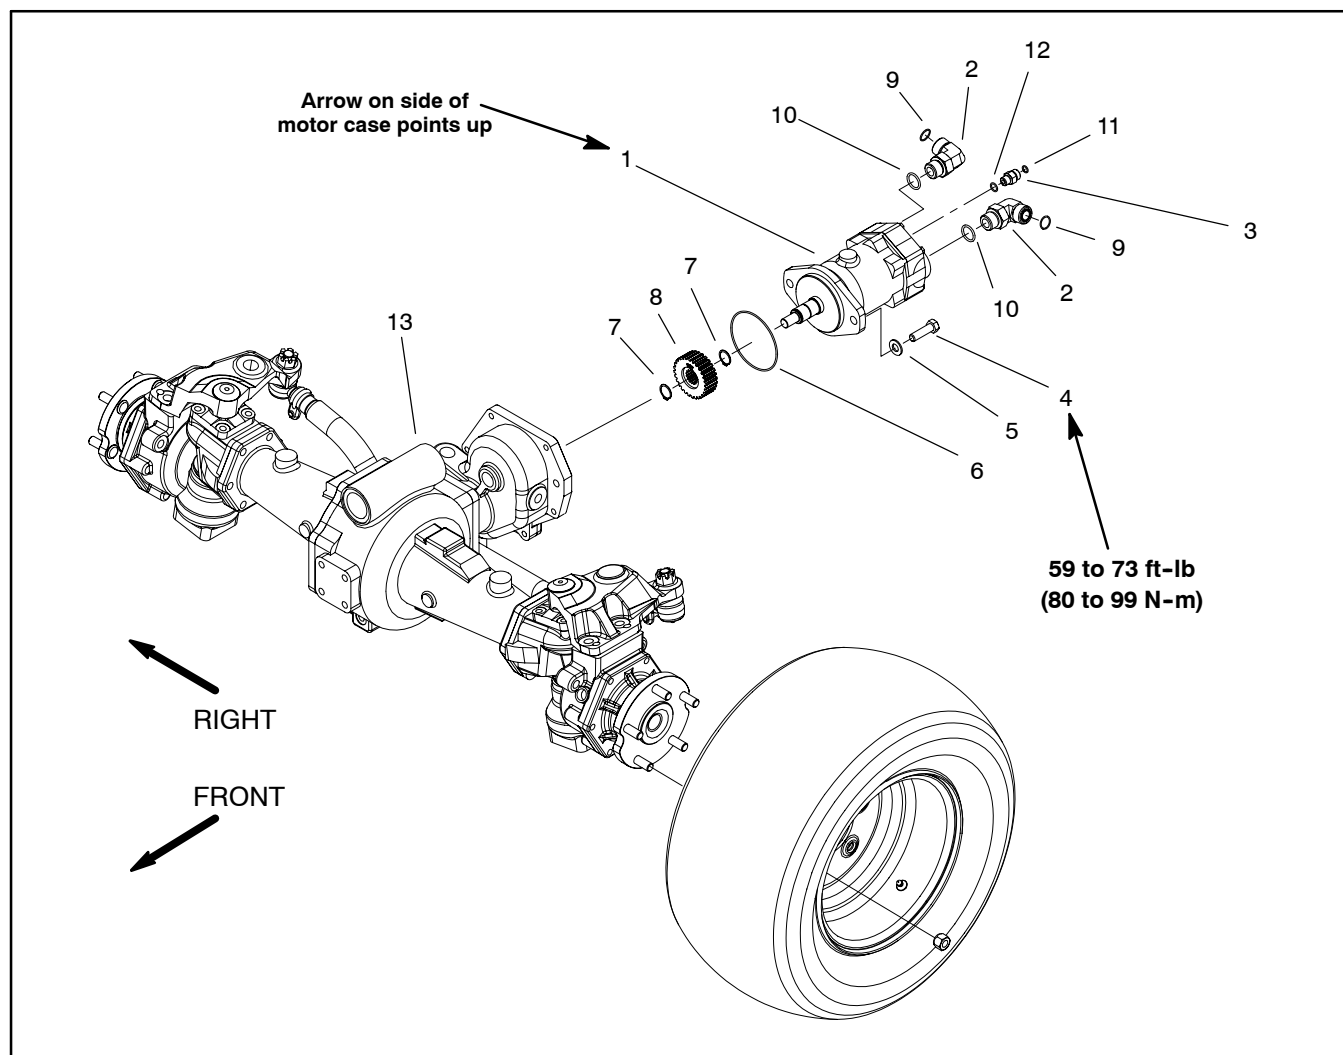

Figure 62
5. Remove motor using Figure 62 as a guide.